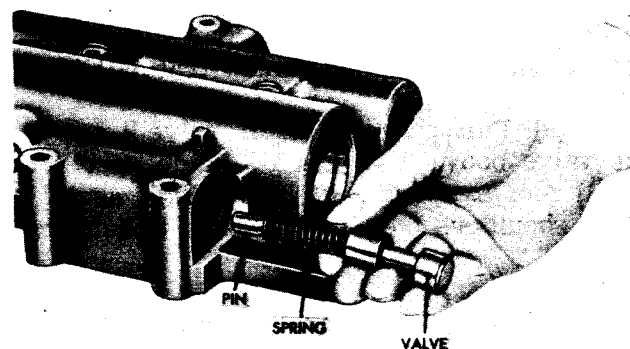

Fig. VI-2. Installing clutch cutoff valve, spring and pin
c. Assembly (item 33, B, foldout 13)
(1) Install pin 57 into spring 58. Install the spring and pin into the recessed end of valve 56.
(2) Install the assembled valve, spring and pin, spring first, into the valve body (fig. VI-2).
(1) Install 57 into spring 58. Install the spring and pin into the recessed end of valve 56.
(3) Install seal ring 53 (B, foldout 13) onto plug 49. Install plug 49, seal ring end first, into retainer plug 50.
(4) Install gasket 55 onto retainer plug 50. Install retainer plug 50 into the valve body.
(5) Complete the assembly by following instructions in 1c (1) through (14), above.